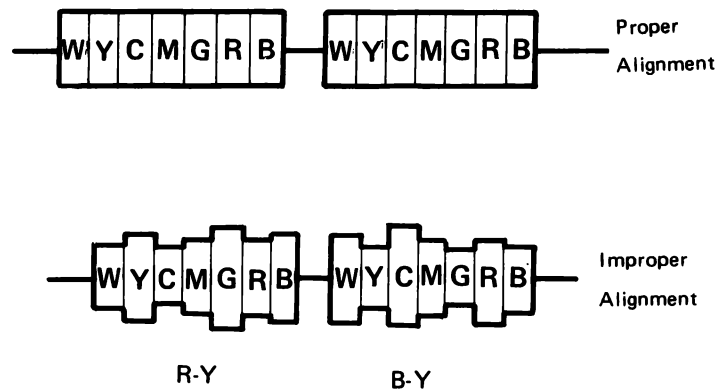

Figure 35.
5. Adjust LM02 so that each bar of (R-Y) and (B-Y) becomes even respectively. (Fig. 35)